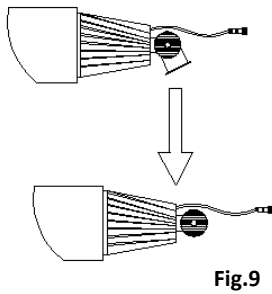

Fig.9
- Take off the connection part of LED lamp(Fig.9)